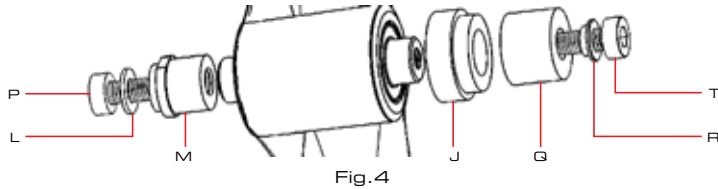

Fig.4
2. To remove the bearings from the Seat Tube orient the tools as seen in Fig. 4. Holding Tool "M" with a 15mm open wrench will prevent the Link Axle from spinning as you tighten the M6 x 35mm bolt (T). This will draw the axle from the frame, bringing one bearing with it. Once the first bearing is removed, repeat this step for the other bearing.